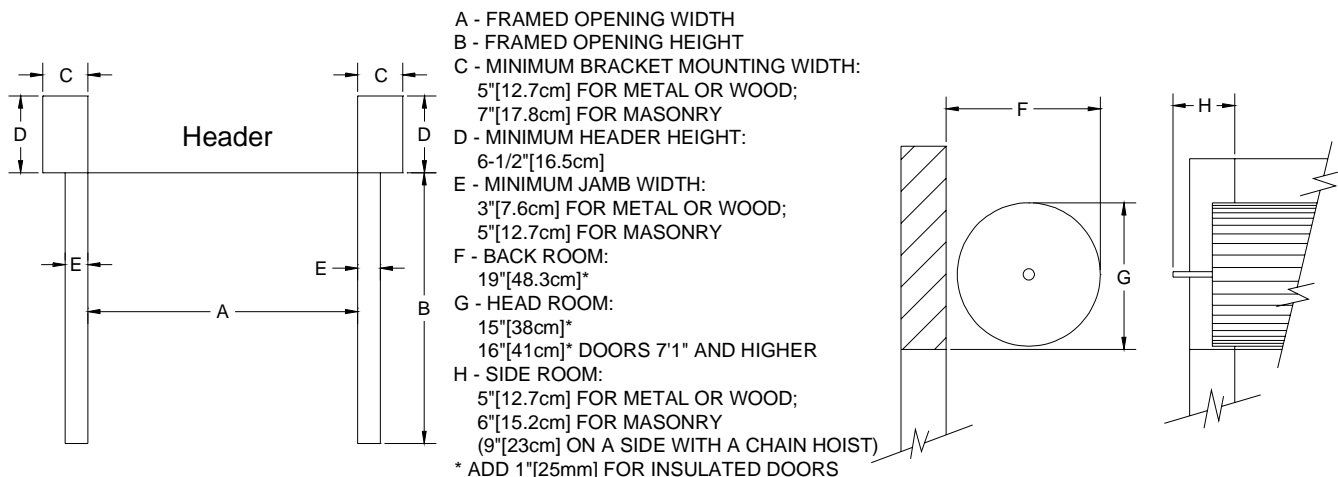

Figure 1
- Are the framed opening width and height the same dimensions as the door ordered? (See Figure 1.)